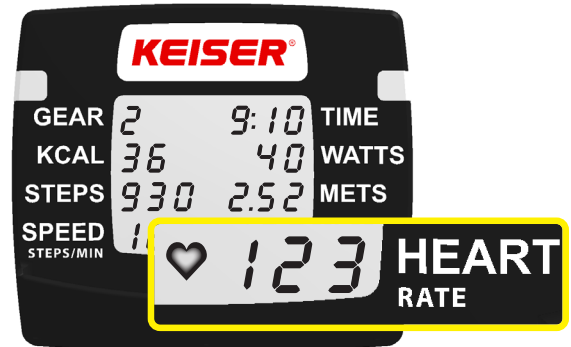

Figure 15. BPM Shown in HEART RATE
- During your workout, your current BPM is shown (see Figure 15).